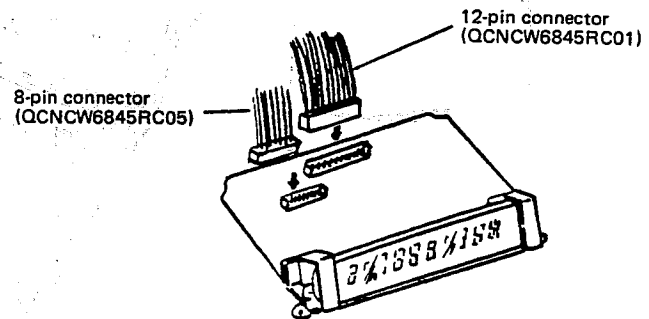

Fig. 18-22
- ② Insert the connectors as shown in Fig. 18-22 through the hole on the top cabinet.